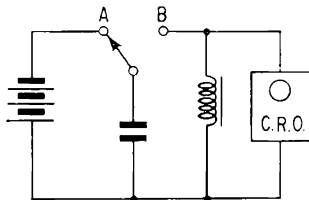

Fig. 393
20. A large coil and capacitor are connected in the circuit shown in Fig. 393. If the C.R.O. has a long persistence tube, sketch the pattern produced when the switch is thrown to position B.